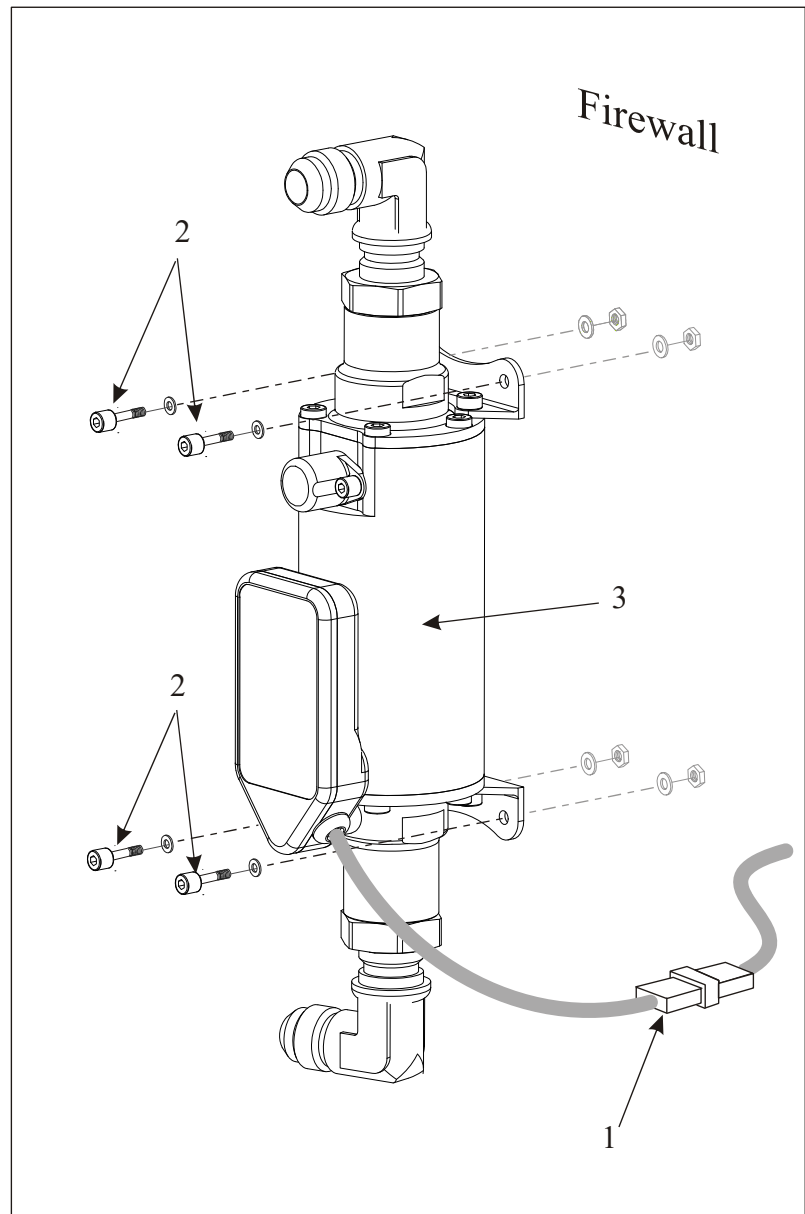

Figure 13 Andair Boost Pump Removal/Installation
- 2 Disconnect the plug (1, Figure 13) and the fuel lines from the boost pump.
- 3 Remove the Allen screws (2).
- 4 Remove the boost pump (3).